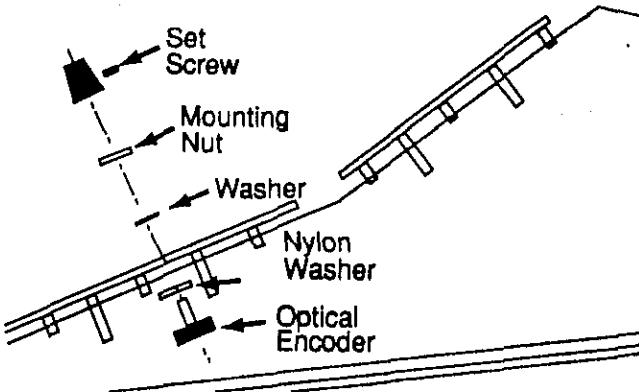

Figure 8-9
5. Assemble the encoder as shown in Figure 8-9.